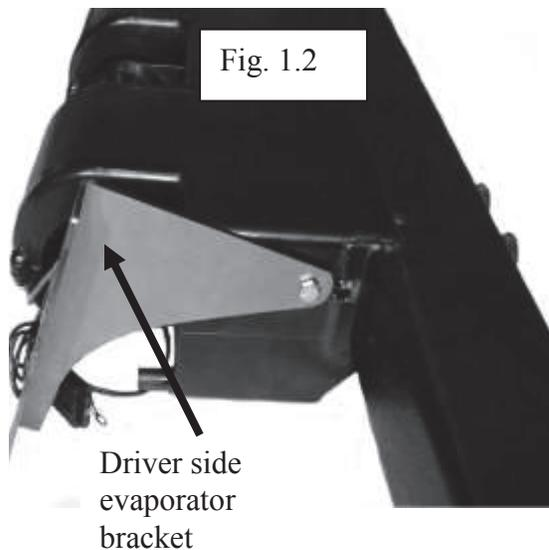

Fig. 1.2
- 4) Attach the brackets to the evaporator unit. Attach the support bracket to the passenger side as well. Use only one bolt on the driver side bracket; use two on the passenger side. Do not tighten the bolts until final installation (after a/c lines and heater hoses are attached). See figure 1.2 & 1.3